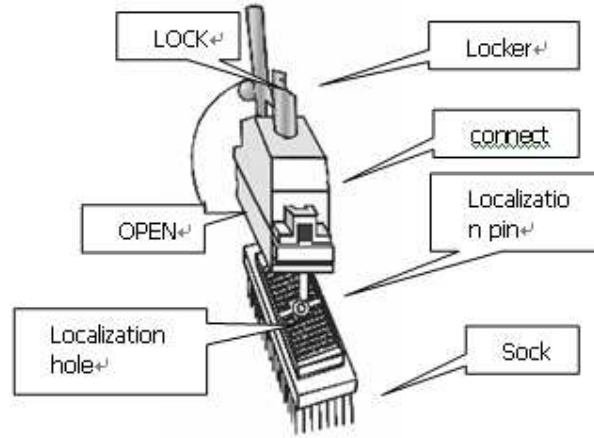

Figure 4-1 96-core probe connection sketch
2. A 96-core connector is used for electronic convex array probe (see figure 4-1).
screen (see figure 4-1).
This equipment is fitted with two probe connectors (A, B). Press this key to convert the probes. The current probe model appears on the right top of the screen (see figure 4-1). The probe model and their codes are:
The current probe frequency displays on the top right of the screen (see figure 4-1).